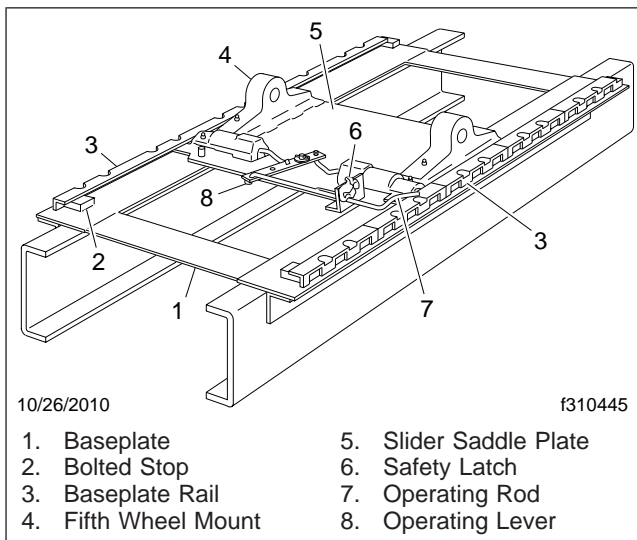

Fig. 10.13, Sliding Fifth Wheel Manual Release, (Holland Simplex)
- 2.2 **Holland:** Pull the operating rod out. Make sure both side plungers have released. See Fig. 10.13.